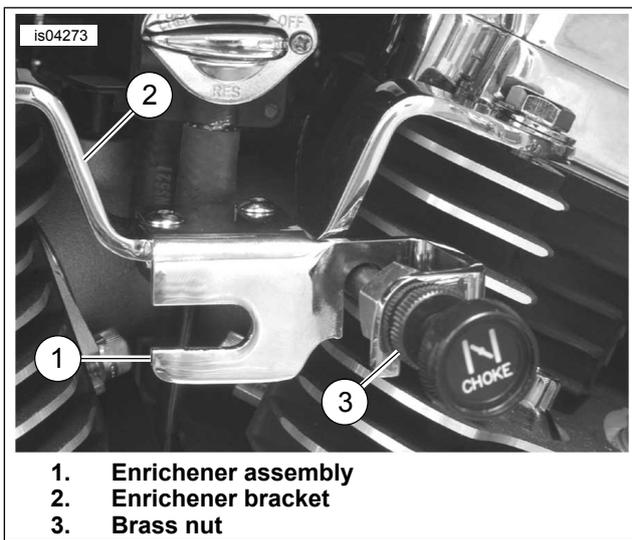

Figure 8. Install Enricher Assembly to Enricher Bracket (1200C Shown)
9. **1200C Models:** See Figure 8. Install enricher assembly (1) to enricher bracket (2) by tightening the brass nut (3) up against the bracket. Install horn to horn bracket and secure using flange nut. Tighten nut securely.